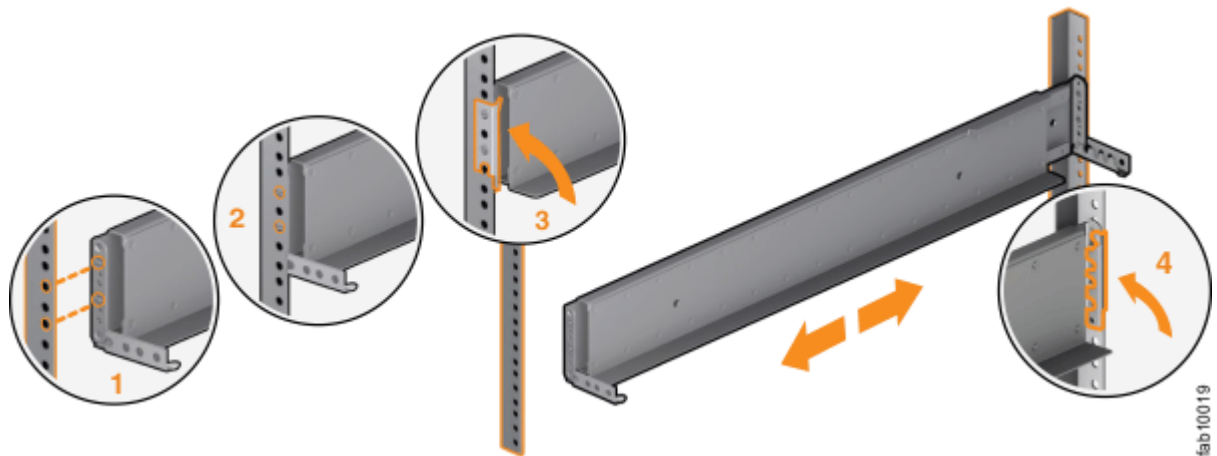

Figure 20. Closing the hinge brackets
- (See Figure 20 on page 21.)
- See Figure 20 on page 21.